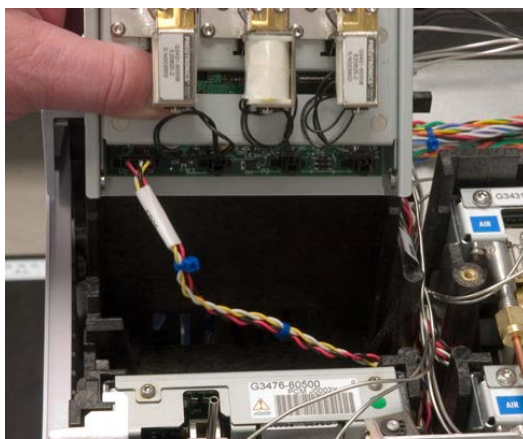

Figure 3.24. Installing the EPC Module
- d. Slide the module into the vertical slot tracks. Arrange the cable to prevent it from being pinched by the EPC module (Figure 3.24).